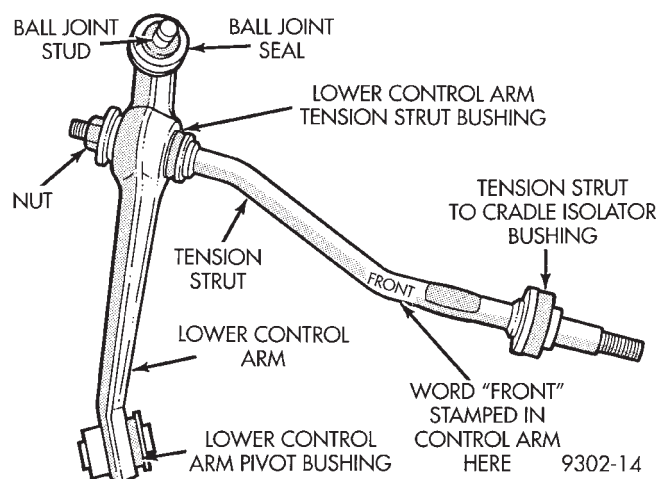

**Fig. 77 Tension Strut Installed In Lower Control Arm**
(4) Install tension strut into the tension strut bushing in lower control arm. Position tension strut in lower control as shown in (Fig. 77) with word **FRONT** stamped in tension strut positioned away from control arm. With an open end wrench on flat of